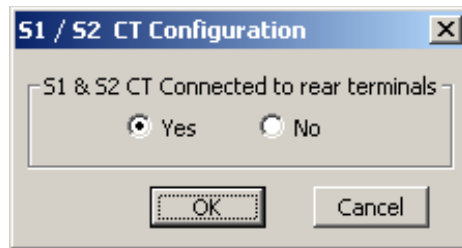

Figure 4-22 S1/S2 CT Configuration Selection Screen
9. Select the **S1/S2 CT Configuration** button. ISScom displays the S1/S2 CT Configuration Selection screen (Figure 4-22). The S1/S2 CT Configuration Selection is based on whether the S1 and S2 CTs are connected to the rear terminals of the MBTS. The default selection is “Yes” which includes the current values for S1 and S2 on the Single Line Diagram (Figure 3-20). Selecting “No” removes the S1 and S2 current elements from the Single Line Diagram.